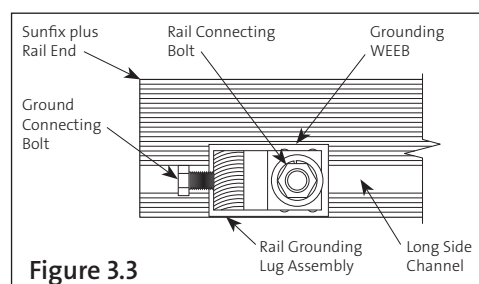

Figure 3.3
- 3.3. At the end of each row attach the Rail Grounding Lug Assembly ⑩ similar to steps 2.1 and 2.2. Be sure to install Rail Grounding Lug Assembly parallel to rail, ensuring the teeth of the grounding WEEB firmly "bite" into rail. Torque rail-connecting bolt to 12 ft-lbs using general purpose anti-seize compound. After inserting grounding wire, torque ground-connecting bolt to 7 ft-lbs. Refer to **Figure 3.3**.